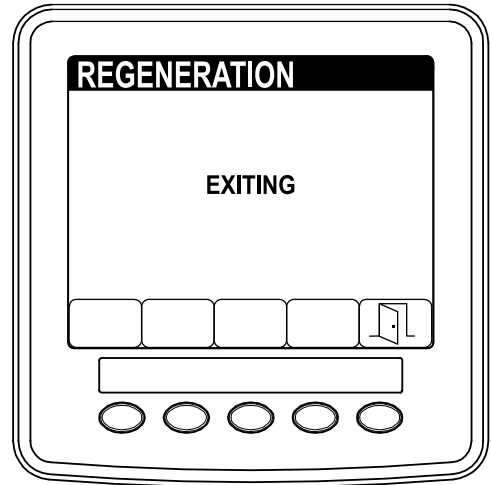

Figure 53
**Note:** If you press button 5 while the regeneration is processing, you will exit the regeneration process. At the EXIT screen press button 5 to return to the SERVICE menu (Figure 53).